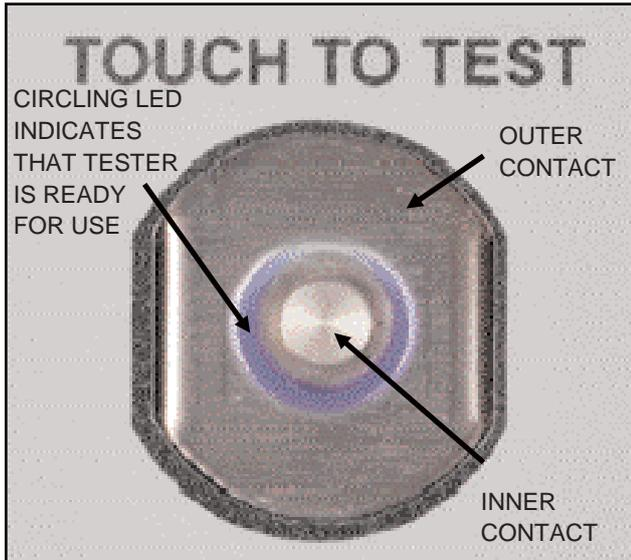

Figure 8. Test Contact
- I. A circling blue light between the inner and outer contacts will indicate that the tester is ready for use. (See Figure 8)